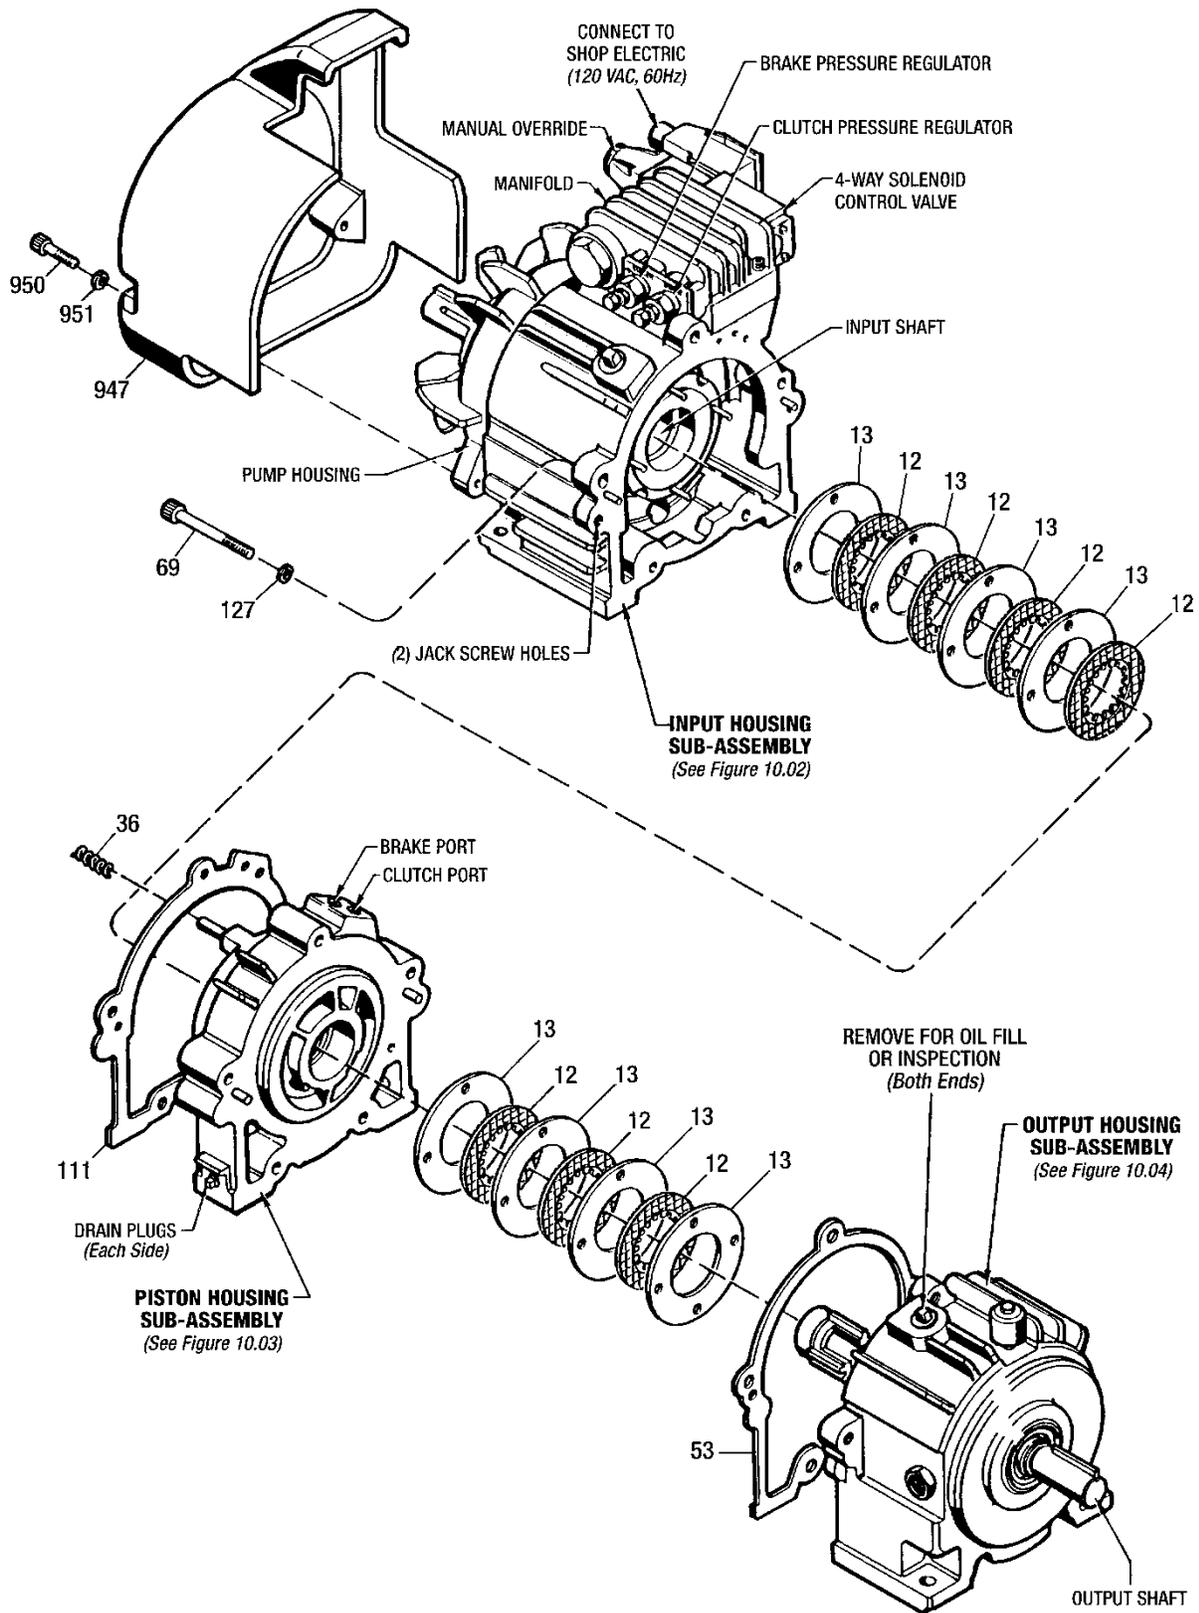

Figure 10.01 - Main Sub-Assemblies & Clutch/Brake Stacks
(See Figure 10.01)
2. Install the Brake Stack, as shown in *Figure 10.01*, onto the Output Shaft Spline aligning the (4) holes in the Drive Plates (#13) with the (4) extended pins in the Output Housing.
4. Place the Clutch Stack, as shown in *Figure 10.01*, onto the Output Shaft Spline. Make sure the (4) holes
(Figure 10.01)